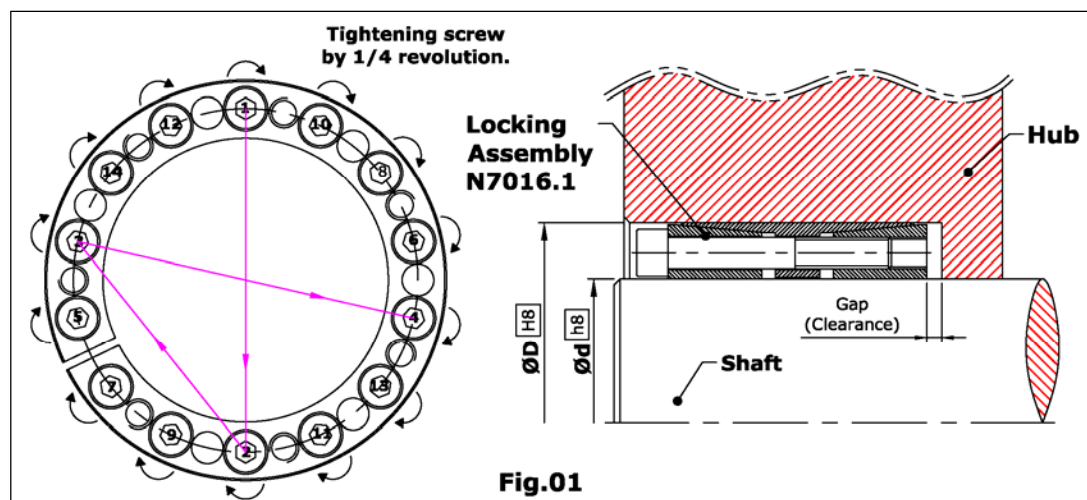

Fig.01
- Once the axial position of locking assembly is fixed then tighten all screws one by one in diametrically opposed sequence by using torque wrench. (As shown in Fig. 01)